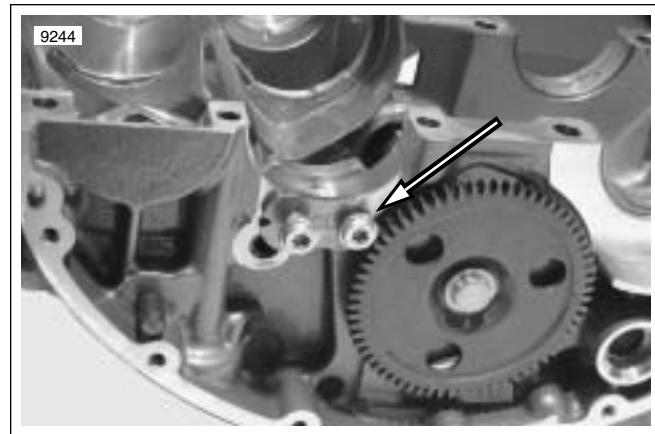

Figure 3-124. Input Shaft Bearing Retainer
1. See Figure 3-124. Remove input shaft bearing retainer to fully expose shifting fork shaft.